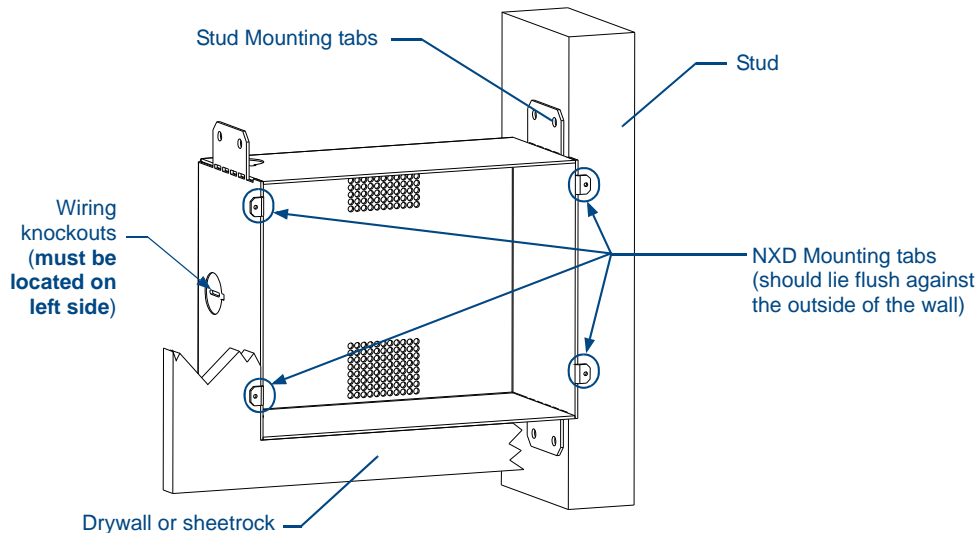

FIG. 11 CB-TP7 conduit box components
The CB-TP7 is an optional metallic box that is secured onto a stud/beam in a **pre-wall** setting (*where no walls are present*). Installation procedures and configurations can vary depending on the installation environment. This section describes the installation procedures for the most common installation scenario. The most important thing to remember when mounting this conduit box is that the NXD-700Vi Mounting Tabs must lie flush against the outside of the sheetrock (FIG. 11).
2. Fasten the CB-TP7 conduit box to the stud through the holes on the right Stud Mounting tabs (FIG. 11), using either nails or screws.
3. Remove the wiring knockouts from the left side of the conduit box (CB-TP7) (FIG. 11) to accommodate the cables being threaded through to the NXD touch panel.